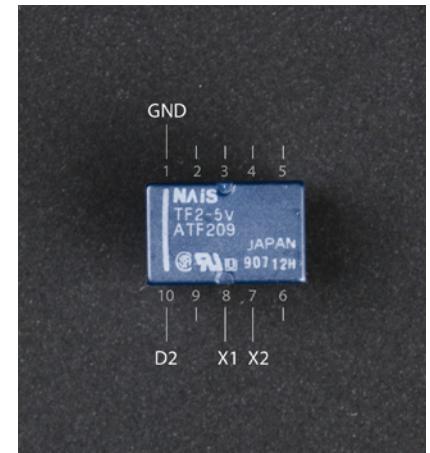

Figure 7-4. Relay circuit connections
The Arduino controls the relay in Figure 7-4. Connect digital pin 2 on the Arduino to the relay pin marked D2, and the Arduino ground to the relay pin marked GND. Connect the external component you wish to control to the X1 and X2 pins. When D2 is switched on (HIGH), the relay will connect pins X1 and X2 to each other.
- a. Connect Arduino's +5V pin with a red jumper wire to relay pin 8, the middle one in the bottom row. Pin 8 is marked as X1 in Figure 7-4.
- b. Connect the LED's positive (longer) leg to relay pin 7. Pin 7 is in the bottom row, second from the right. It is marked X2 in Figure 7-4.